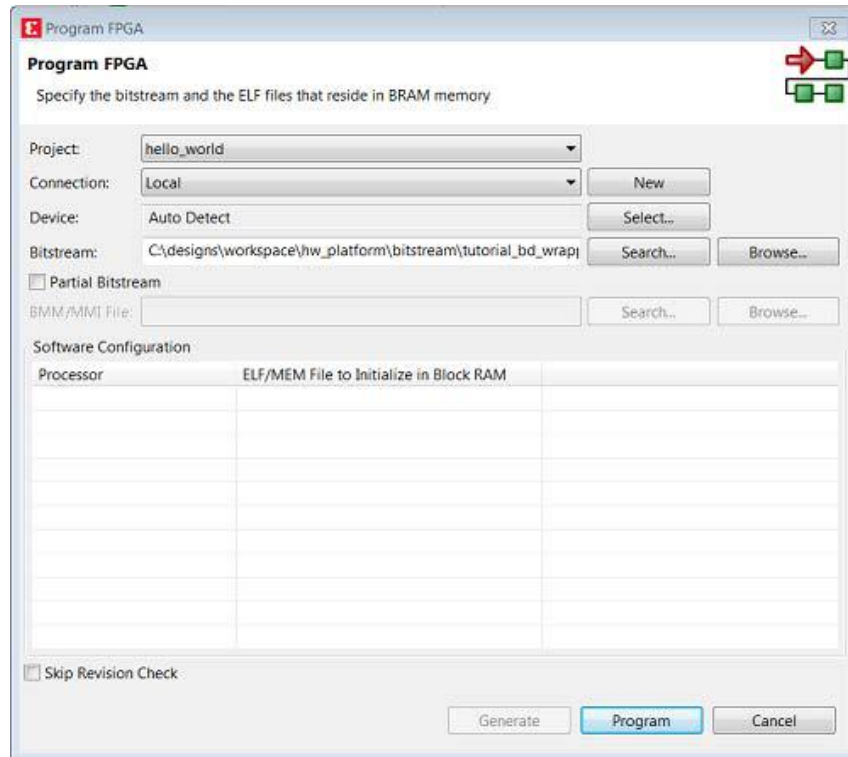

Figure 3-17: Program FPGA
8. Select **Xilinx > Program FPGA**. The Program FPGA dialog box, shown in Figure 3-17, opens. Browse for the bitstream exported from Vivado.